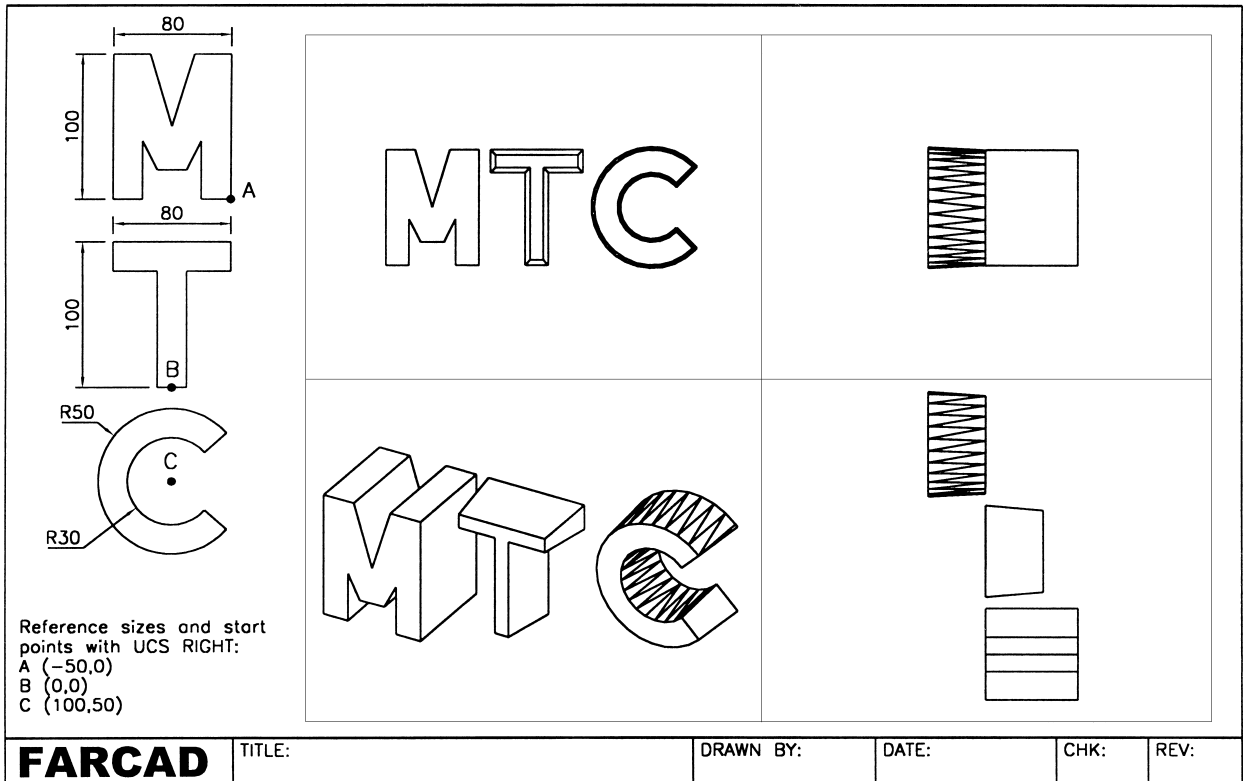

Figure 29.1 Extruded example 1 – letters.
- 4 Using the reference sizes given in Fig. 29.1: